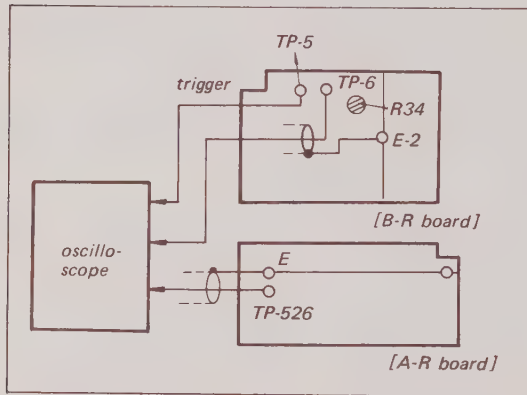

Fig. 7-4. Phase lock adjustment test setup
2. Connect the CH-2 probe of a dual trace scope to TP-6 on the B-R board. See Fig. 7-4.